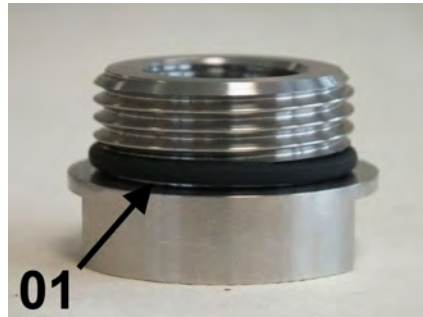

Fig. 47: Properly positioned O-ring
1. Carefully install the O-rings (Fig. 46/02) with the aid of the O-ring installation tool (Fig. 46/01) onto both process connections (inlet and outlet), so that they are properly seated in the O-ring grooves of the process connection (Fig. 47/01). When doing so, be careful not to overstretch the O-rings.
2. Position the O-ring properly on the process connection (Fig. 47/01)